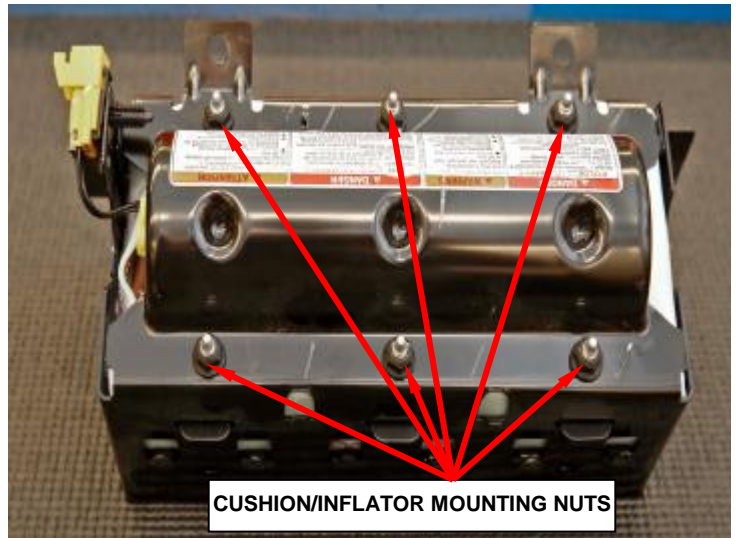

Figure 20 – Cushion/Inflator Mounting Nuts
- d. Remove and discard the six cushion/inflator mounting nuts which attach the housing to the cushion (Figure 20).